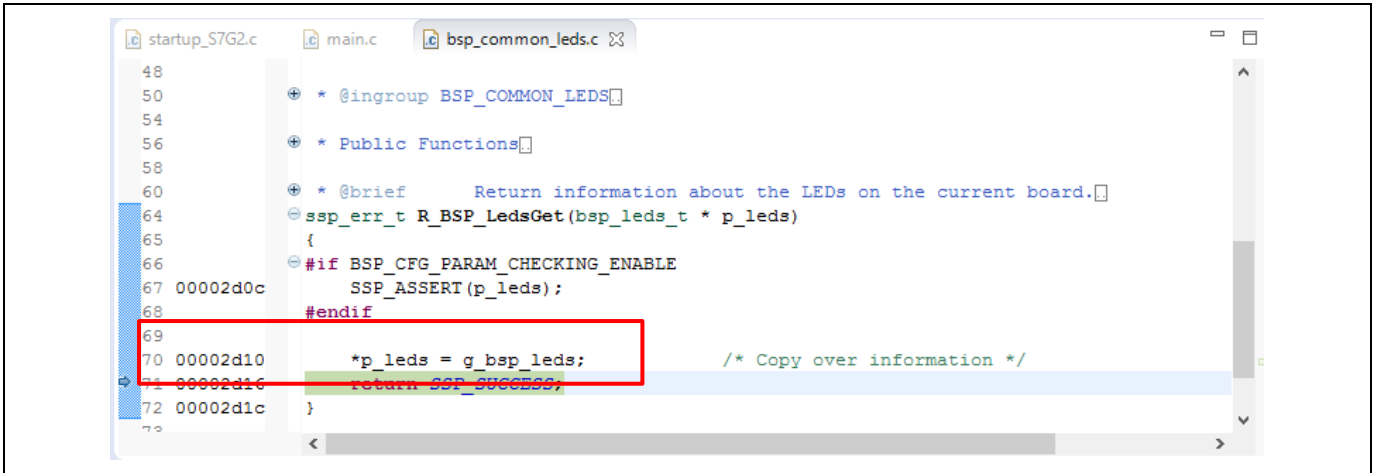

Figure 5-21. Debug – Execution of Event Break
6. Figure 5-21 shows that when the variable `g_bsp_leds` is accessed (read), the program stops.